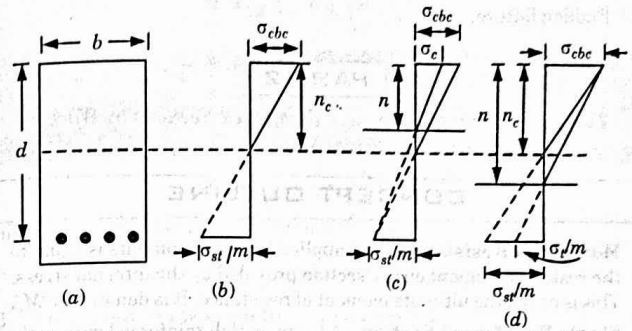

Fig. 1.3.1.
2. The percentage of steel corresponding to this section is called as balanced steel and the neutral axis is called as critical neutral axis ( $n_c$ ) as shown in Fig. 1.3.1. (b)
1. In this section, the percentage of steel provided is less than that provided in balanced section. So the actual neutral axis will shift upwards i.e.,  $n_c > n$  as shown in Fig. 1.3.1 (c).
1. In an over reinforced section the percentage of steel provided is greater than the balanced section. So the actual neutral axis shift downwards i.e.,  $n > n_c$  as shown in Fig. 1.3.1(d).